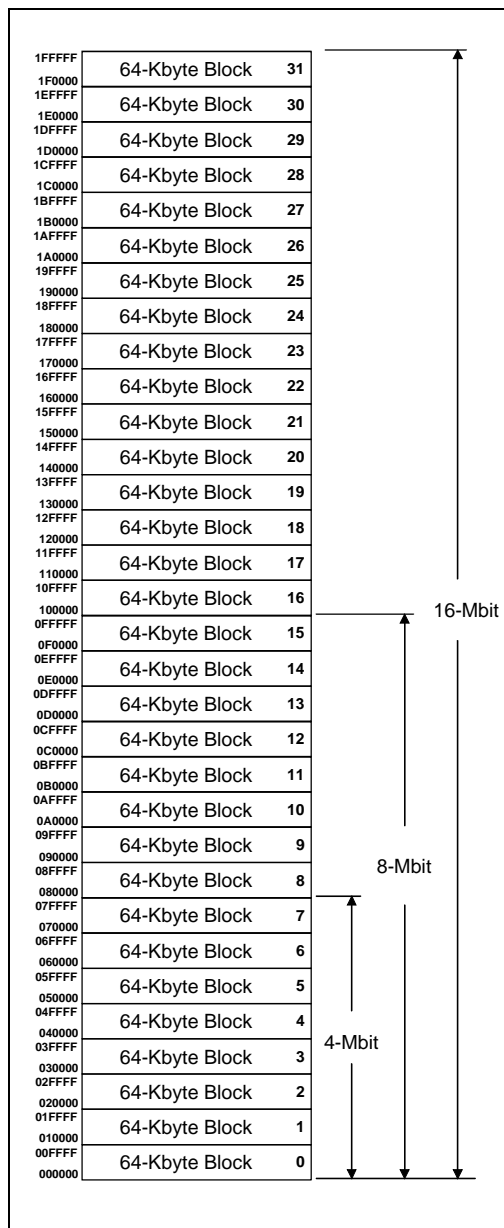

Figure 5. Memory Map
The 3 Volt FlashFile memory family provides density upgrades with pinout compatibility for the 4-, 8-, and 16-Mbit densities. The 28F004S3, 28F008S3, and 28F016S3 are high-performance memories arranged as 512 Kbyte, 1 Mbyte, and 2 Mbyte of eight bits. This data is grouped in eight, sixteen, and thirty-two 64-Kbyte blocks which are individually erasable, lockable, and unlockable in-system. Figure 5 illustrates the memory organization.
1. X selects the specific block lock configuration code to be read. See Figure 5 for the device identifier code memory map.